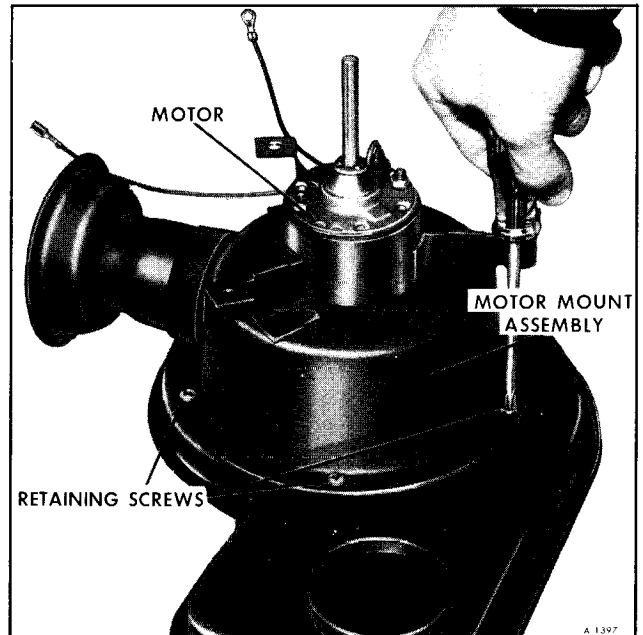

Figure 31-Removing Motor and Mount Assembly Retaining Screws
8. Remove motor mount assembly from motor cover (5 screws) (figure 31).
3. Assemble motor housing to small blower wheel housing (5 screws) (See figure 31).